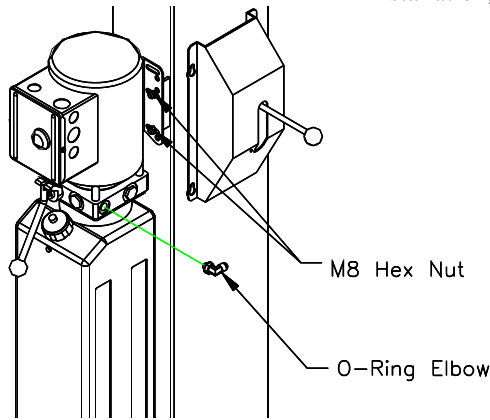

Fig 5 – Power Unit Mounting
- 19) Mount Power Unit to power column as shown in Fig 5. The mounting hardware, (4) M8 hex nuts, are pre-installed on power unit mounting bracket.